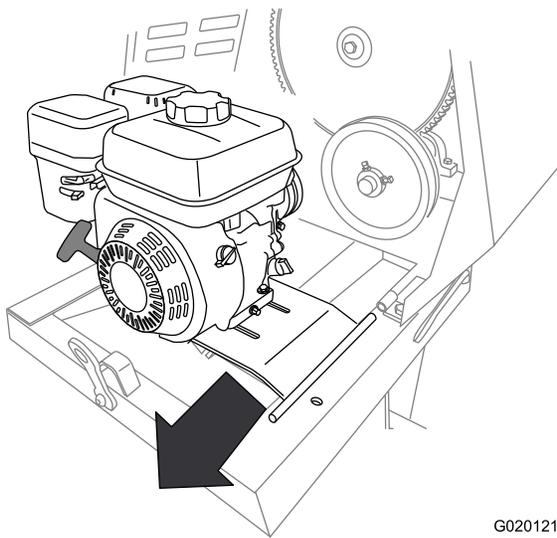

Figure 61
- Slide the engine deck rearward and out from the forward hinge bracket (Figure 61).
10. Remove the engine and engine deck from the machine (Figure 61).
2. Align the pivot on the engine deck with the forward hinge bracket (Figure 61).
3. Slide the engine deck forward and the pivot into the forward hinge bracket (Figure 61).
4. Align the rear hinge bracket with the pivot on the engine-deck hinge (Figure 61).